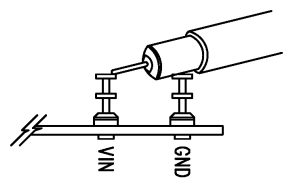

Figure 2. Measuring Input or Output Ripple
**NOTE:** When measuring the input or output voltage ripple, care must be taken to avoid a long ground lead on the oscilloscope probe. Measure the output (or input) voltage ripple by touching the probe tip and probe ground directly across the +VOUT and -VOUT (or VPORT\_P and VPORT\_N) terminals. See Figure 2 for proper scope probe technique.